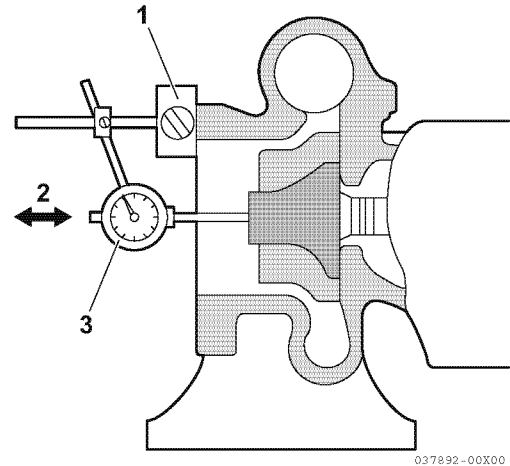

Figure 10-3
1. Set up a dial indicator as shown (Figure 10-3).